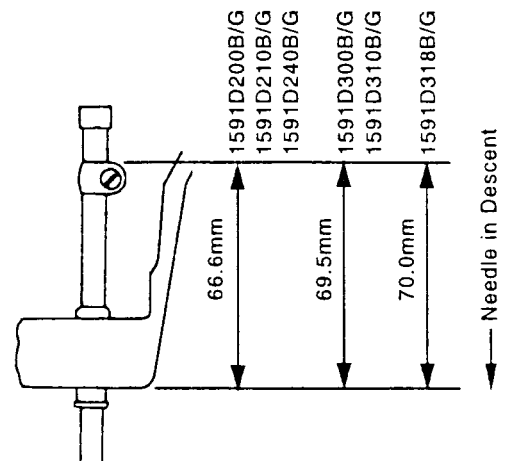

Fig. 54
2. Turn machine pulley over toward front of machine until the needle bar go beyond its upper dead point and descend to the point shown in Fig. 54.